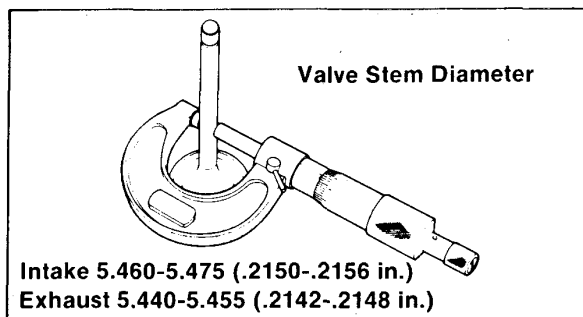

Figure 4-41
1. Measure the valve stem diameter. See Fig. 4-41.